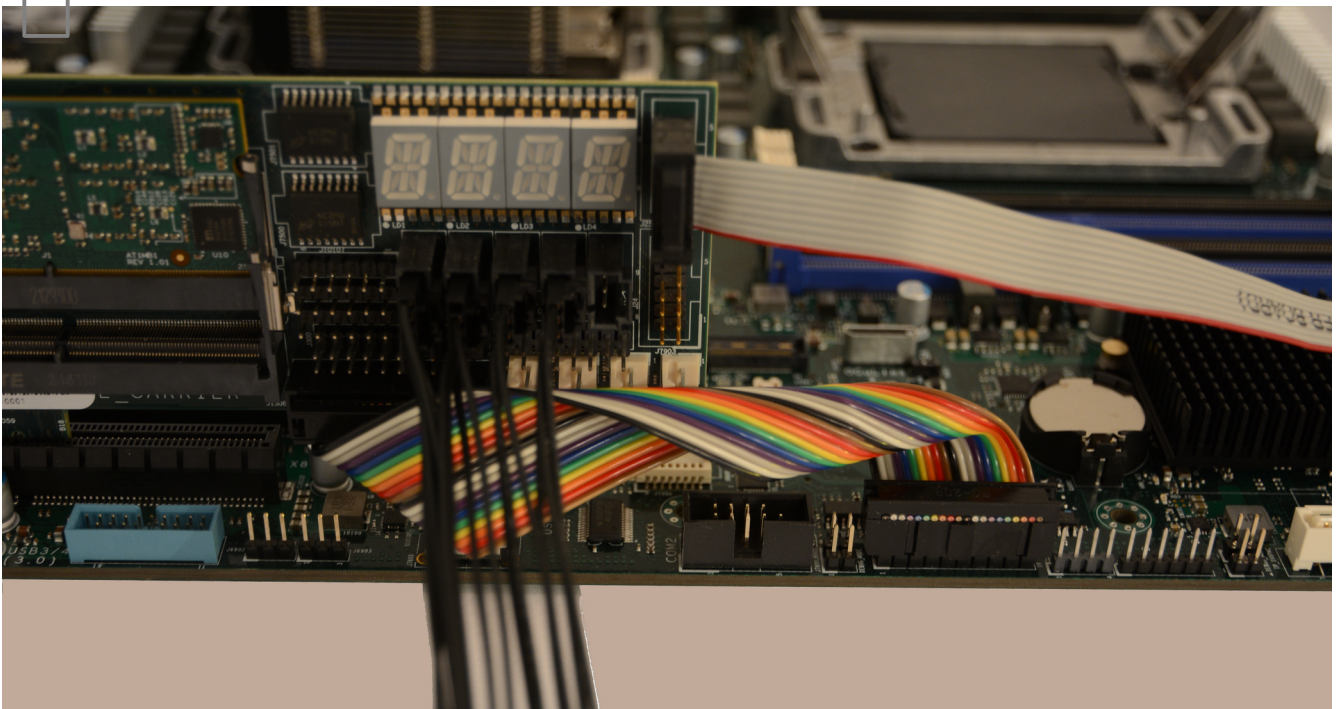

Figure 7: LPC Cable Installation
- Attach the LPC cable to the host system TPM header as shown in Figure 7. Note the short length and curl introduced into the cable; this is to maintain signal integrity as much as possible over the length of the cable run.